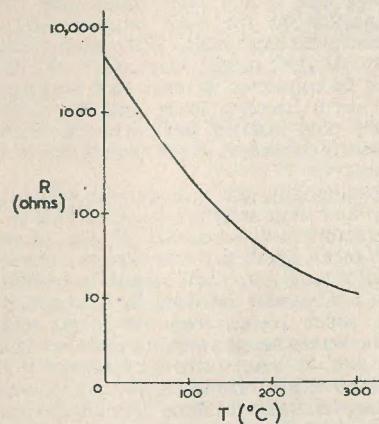

FIG. 1.
When equation (1) is plotted to show the variation of resistance with temperature, putting in normal values of a and b , the graph in Fig. 1 is obtained. This shows that an increase in temperature of a few hundred degrees is sufficient to reduce the resistance to one hundredth of its original value. It is possible to produce a bead less than 1mm in diameter with a cold resistance of 500,000 ohms.